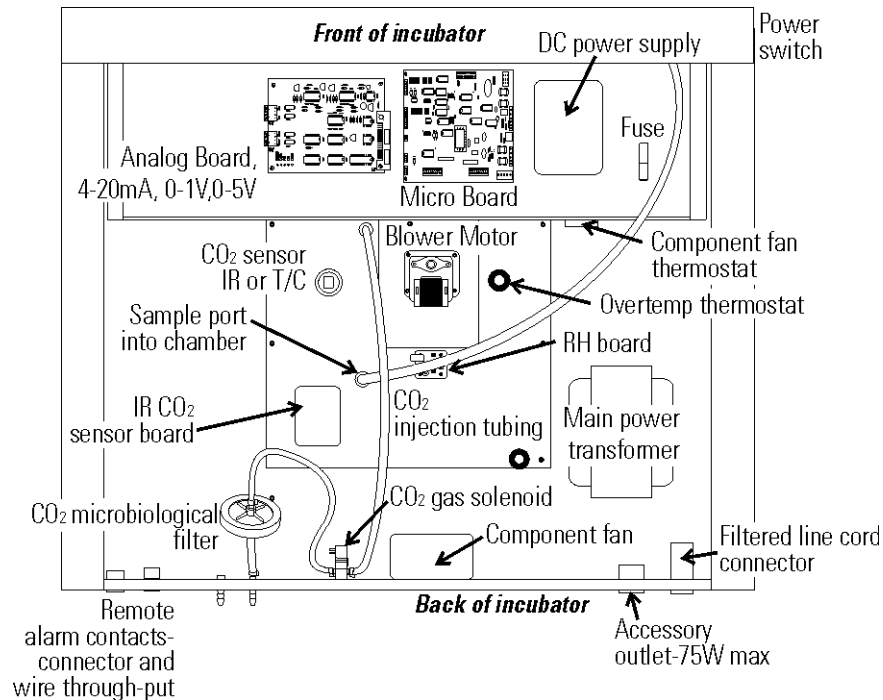

Figure 5-3. Electronics Drawer
4. Figure 5-3 shows the location of the fuse. See Table 5-1 following for replacement fuse specifications.
Refer to Figure 5-3. Some components shown are factory installed options.